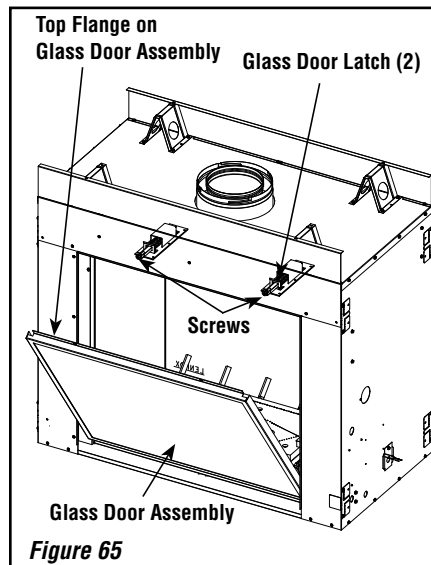

Figure 65
### Installing Glass Doors, Barrier, and Modesty Panel (see Figure 65)
- b) Position the door in front of the firebox opening, with the top of the door held away from the fireplace (see **Figure 65**).
- d) Using a #3 Phillips screwdriver, fasten the door frame to the door latches with the two (2) latch screws. The latches should pull forward to engage the door frame.